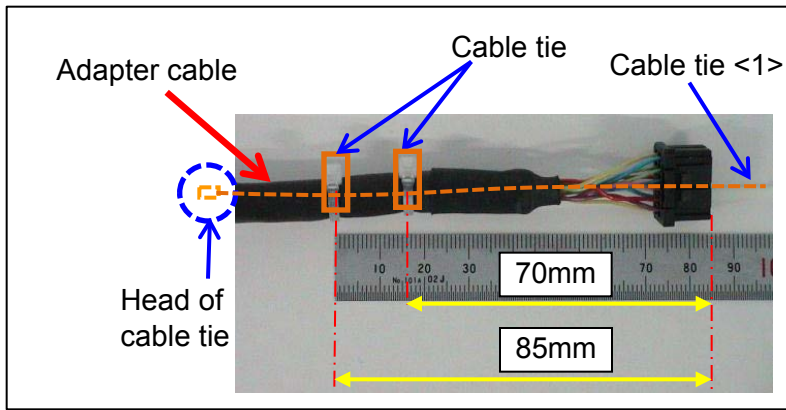

Fig. 1: Details of the bundling on the controller side sensor cable
- (1) Bundle the adapter cable and one cable tie (cable tie <1>) together using two cable ties at two positions as shown in Fig. 1.